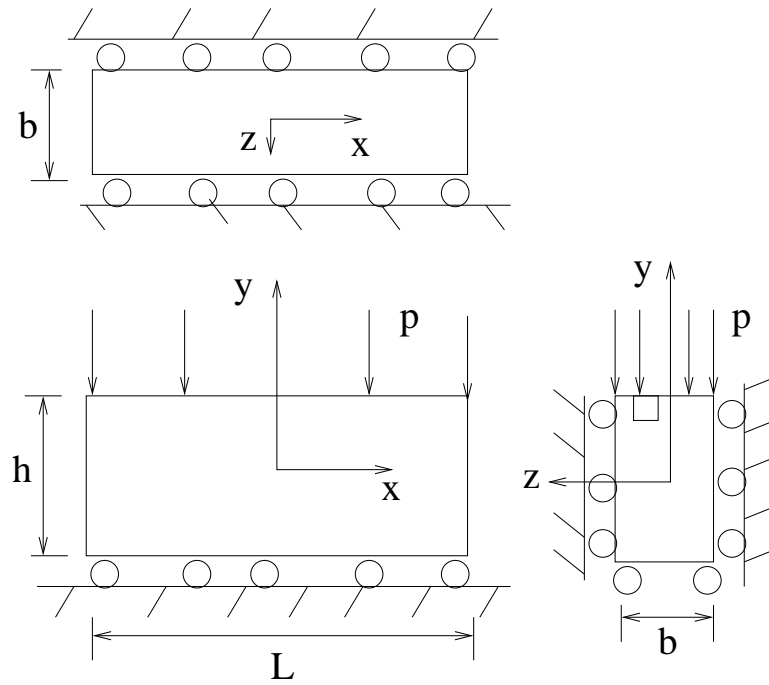

Figure 1: Problem 1.
1. A block in the shape of a rectangular parallelepiped with dimensions $L \times h \times b$ (10) (see Fig. 1, where the front, top and side views are shown) is subjected to pressure p along the top surface. The Young modulus and Poisson ratio are E and ν . The block is free to move along the x direction, and is constrained by frictionless surfaces on the bottom, and the sides $z = \pm b/2$. Assuming a uniform state of stress and strain, find the stresses and strains in the block. Show the stresses on the element shown along the top surface in the side view, and draw the Mohr's circle corresponding to this state of stress. Find the maximum shear stress, and show the element (with proper orientation) on which it acts.